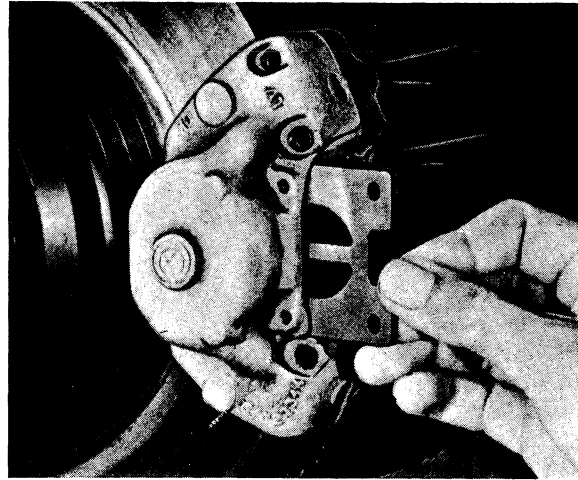

Fig. 5-18. Fitting brake pads
6. Fit the new pads, and the spacers, see Fig. 5-18. Fit one of the retaining pins in position and install the damping springs and the other retaining pin. Fix the pins with retaining clips. Check that the pads are movable.